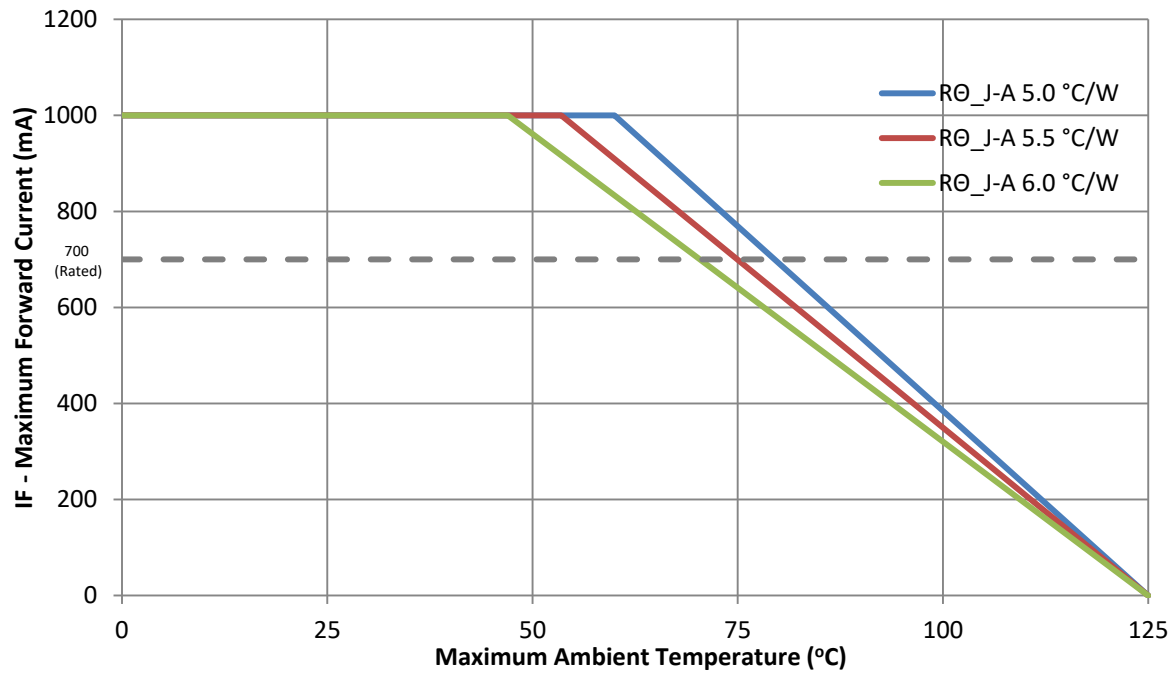

Figure 9: Maximum forward current vs. ambient temperature based on $T_{J(MAX)} = 150^{\circ}\text{C}$.
- Maximum DC forward current (per die) is determined by the overall thermal resistance and ambient temperature. Follow the curves in Figure 9 for current derating.
Notes for Figure 9: